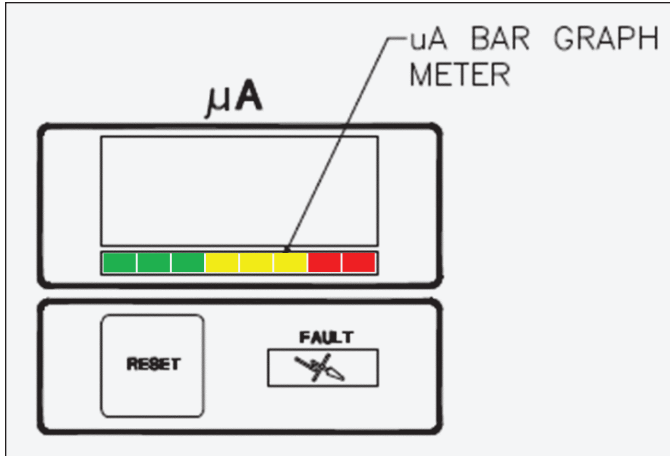

Figure 16: μ A Bar Graph Meter Display
The kV setpoint is displayed on the kV display, the actual current draw on the μA display, and the high voltage light illuminates. Under the μA display is a bar graph meter that illuminates according to the actual current draw shown in Figure 16. The green and yellow regions of the bar graphs meter indicate output current is in the optimum range for maximum transfer efficiency. The red region of the bar graph indicates high output current causing decreased transfer efficiency. If high output, check maintenance of applicator and external equipment of the power supply.
can then be adjusted between 20 kV and full kV using the + and - buttons on the front panel of the 9060 Controller shown in Figure 16. Single pushes of the + or - buttons will increment or decrement the currently selected preset in units of 1. When the + or - buttons are held in for longer than a 1/2 second, the kV display will begin incrementing or decrementing in units of five (5).